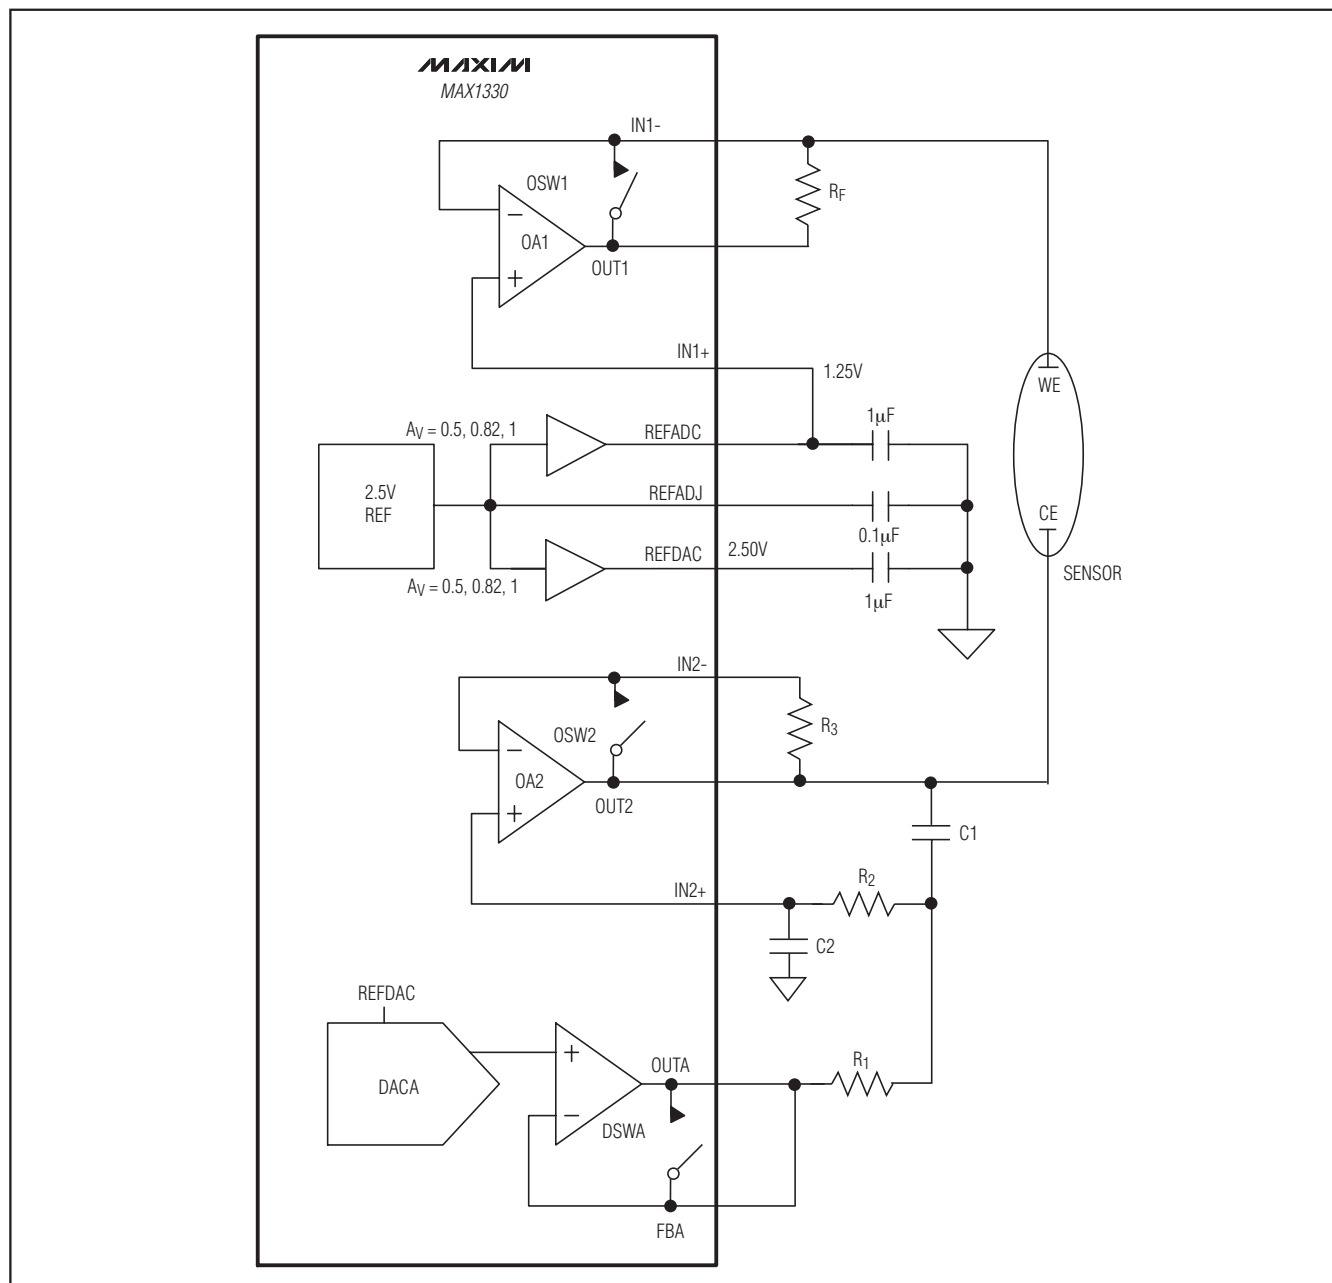

Figure 30. Two-Electrode Potentiostat with AC and DC Excitation
The circuit in Figure 30 shows the MAX1330 in a two-electrode potentiostat application with both AC and DC excitation to the sensor. The DSWA can be open or closed and OSW1 and OSW2 should be normally open although OSW1 can be closed during high sensor current to keep op amp 1 in compliance. REFADC is analog ground and the working electrode (WE) is connected to analog ground through op amp 1. The sensor current to be measured is converted to a voltage through RF and measured by the internal ADC. For DC operation, the bias voltage between WE and the counter electrode (CE) is set by DACA. For AC operation, DACA is configured to generate a waveform by programming the FIFOA Control and FIFOA Data registers for the desired operation. Op amp 2 is configured as a 2nd-order Sallen Key lowpass filter to smooth the steps in the AC waveform going to the sensor. The DACA can be sequenced to create an AC waveform through the SPI interface or by configuring one of the DPIOs and driving it with a clock. The internal ADC includes a 16-word FIFO to facilitate data gathering during this mode of operation.